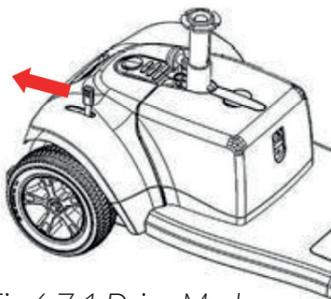

Fig 6.7.1 Drive Mode
- Drive position - is indicated by 'Closed' - pull the lever backwards for this position. **Fig 6.7.1.**